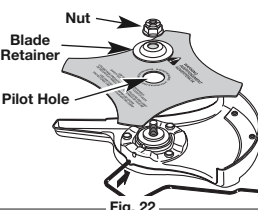

Fig. 22
- Place the cutting blade on the output shaft bushing (Fig. 22).